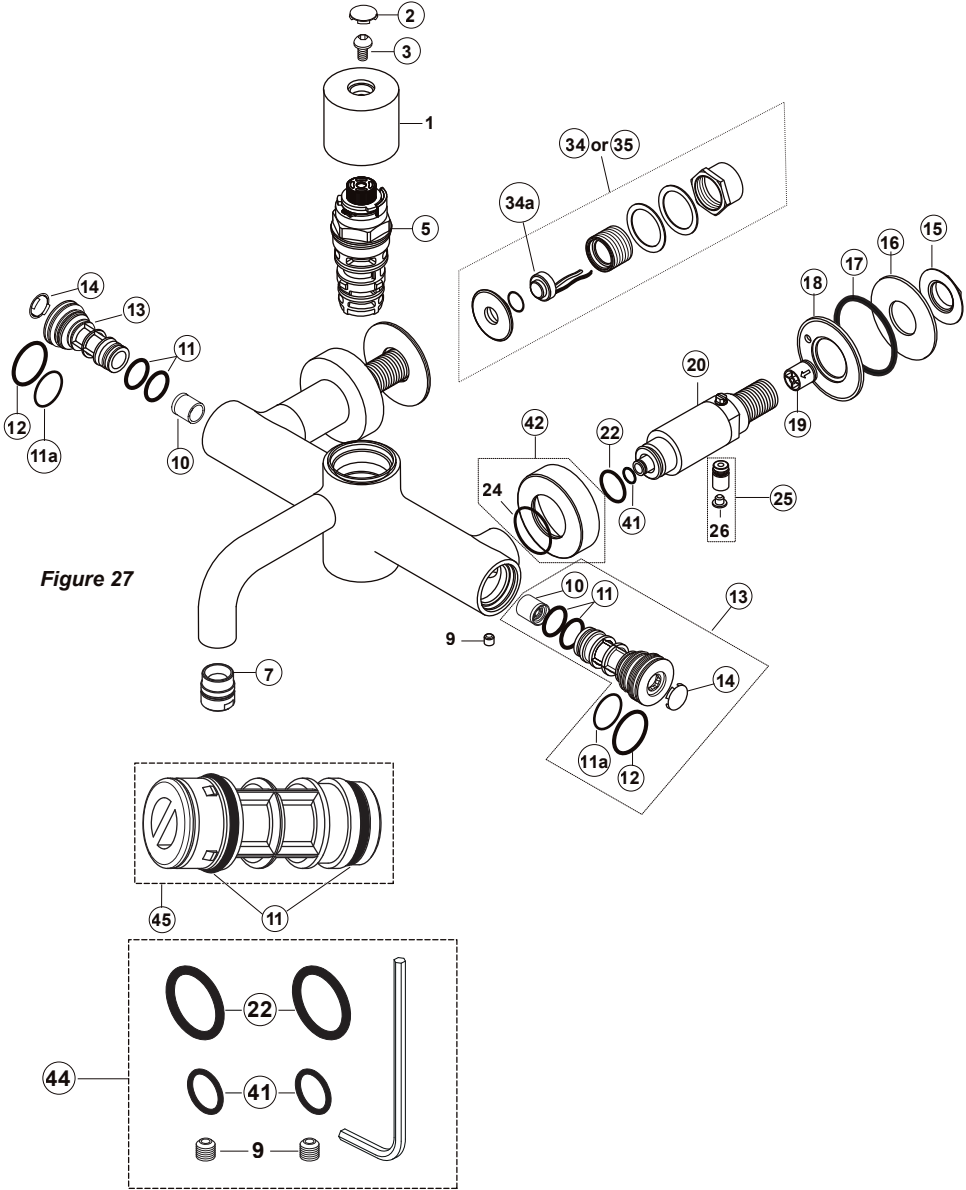

Figure 27
To prevent back siphonage of water to the supply pipes, check valves are fitted inside the inlet tails (19) – see figure 27. These check valves can be maintained/replaced, but **MUST NOT BE REMOVED**.
*To achieve a suitable flow rate where supply pressures are very low it may be necessary to remove the flow regulator (**item 10 figure 27**).